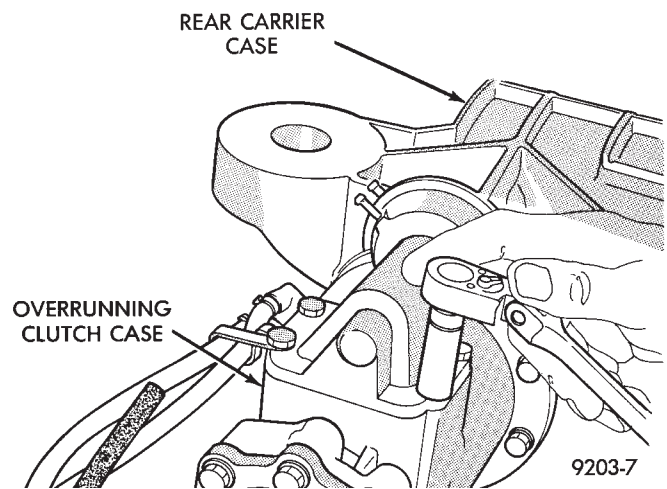
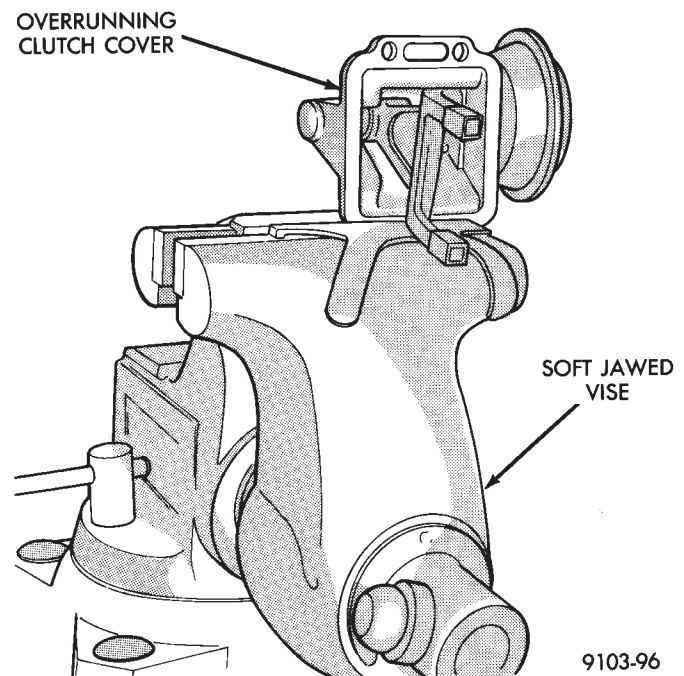

Fig. 1 Mounting Bolts
Fig. 2 Clamp Housing in Vise
- (1) Remove rear drive line module assembly from vehicle.
- (2) Cut clamps and disconnect vacuum hose to vacuum motor.
- (3) Remove overrunning clutch cover assembly mounting bolts (Fig. 1).
- (4) Lift overrunning clutch cover assembly off of overrunning clutch case.
- (5) Clamp assembly in soft jawed vise (Fig. 2).